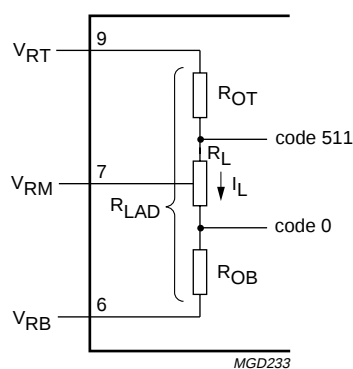

Fig.3 Explanation of note 3.
- In order to ensure the optimum linearity performance of such converter architecture the lower and upper extremities of the converter reference resistor ladder (corresponding to output codes 0 and 511 respectively) are connected to pins V_{RB} and V_{RT} via offset resistors R_{OB} and R_{OT} as shown in Fig.3.